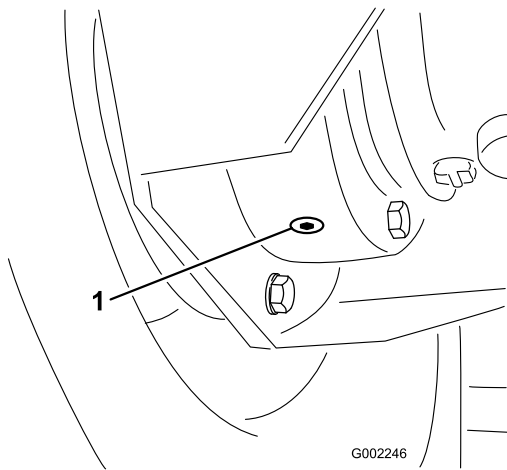

Figure 77
4. Place a drain pan under the inner drain plug and remove it (Figure 77).